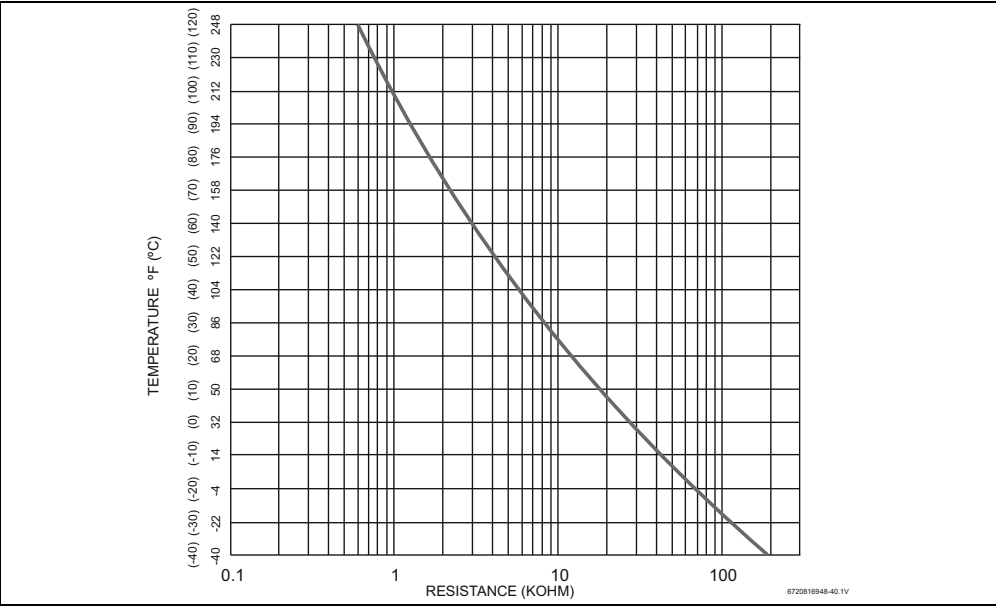

Fig. 64 Inlet, outlet and heat exchanger water temperature sensors characteristics
2) see temperature resistance charts in fig. 64 and 65.